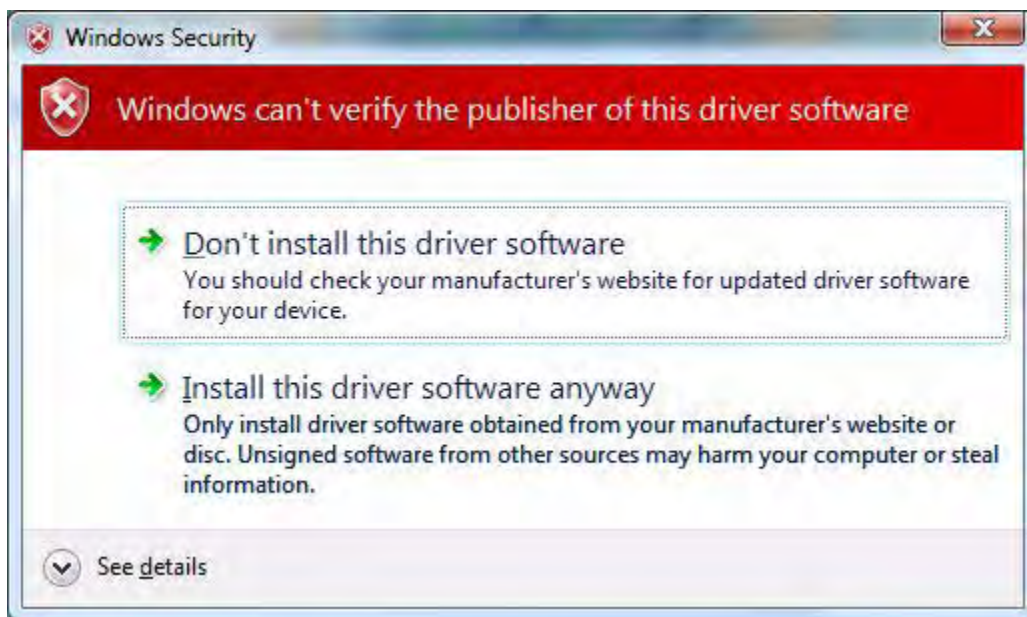

Figure 6. Can't Verify Publisher Dialog, Windows Vista
4. When Windows prompts you whether to install or not install, as shown in Figure 6, click **Install this driver software anyway** and wait until the installation is completed (Windows may prompt you more than once).